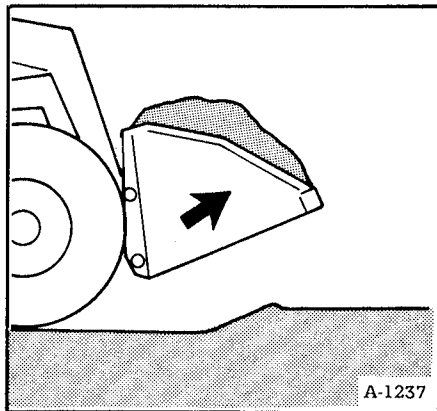

Fig. 18 Leaving Hole
5. When the bucket is filled, roll it back as far as it will go (Figure 18).